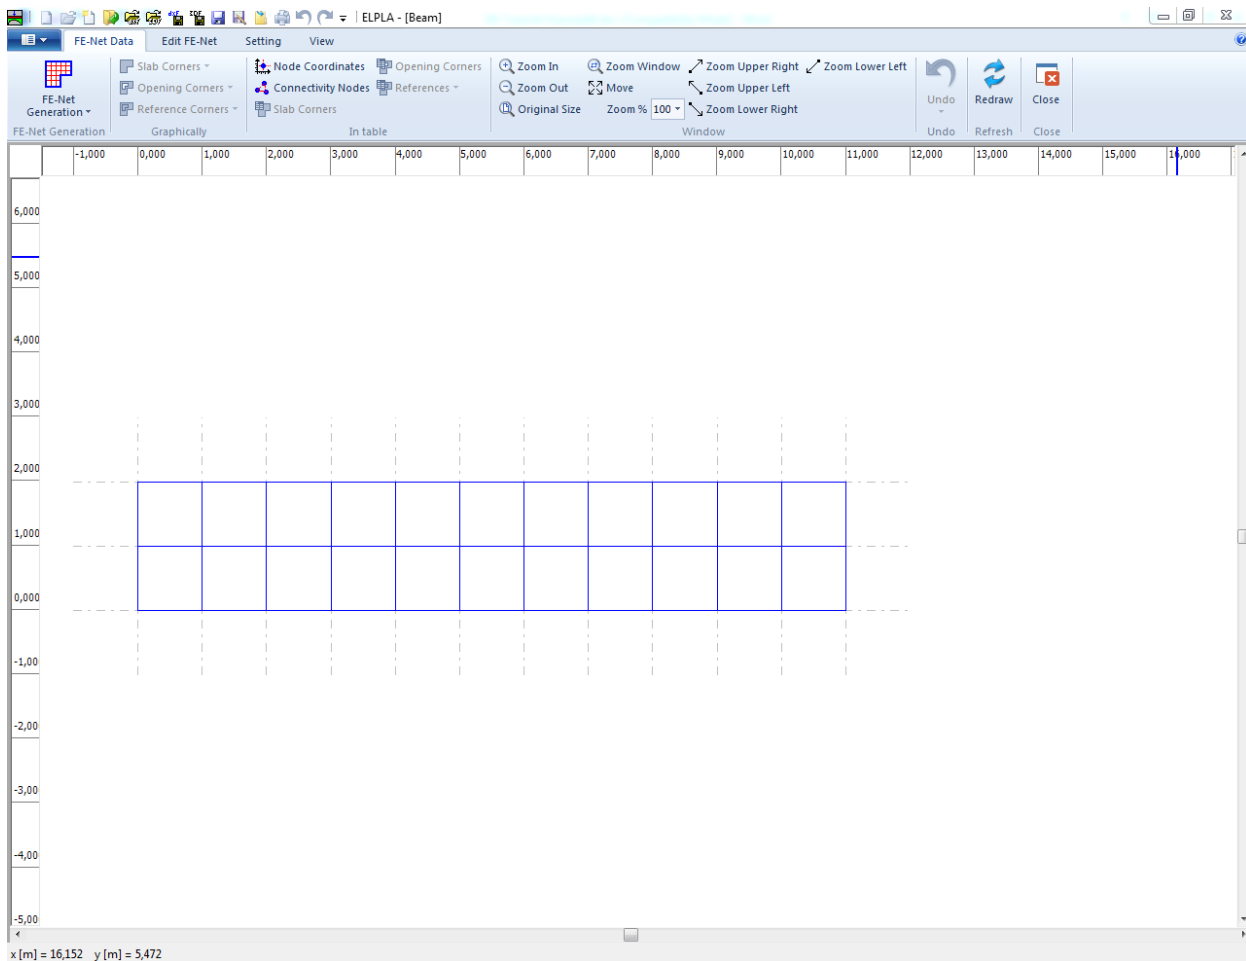

Figure 8.10 Imaginary net of a rectangular area
ELPLA will generate an imaginary net for a rectangular area of 11 [m] length and 2 [m] width with square elements of 1.0 [m] each side. The following Window in Figure 8.10 appears with the generated imaginary net.
- Choose "Save" command from "File" menu in Figure 8.10 to save the data of the imaginary net
- Choose "Close" command from "File" menu in Figure 8.10 to close "FE-Net" Window and to return to *ELPLA* main window.